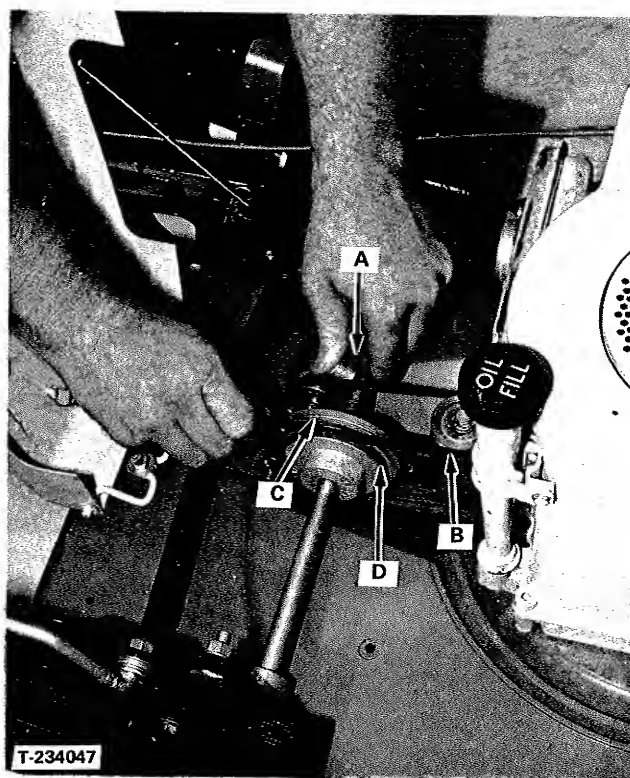

FIGURE 17 - BELT ADJUSTMENT
2. Move spring loaded idler arm (A, Figure 17) forward towards the engine to release tension on the belt (B).
3. Grasp belt with fingers to pull slack toward the double groove pulley. The large groove (C) is for slow forward speed and the small groove (D) is for a faster forward speed.